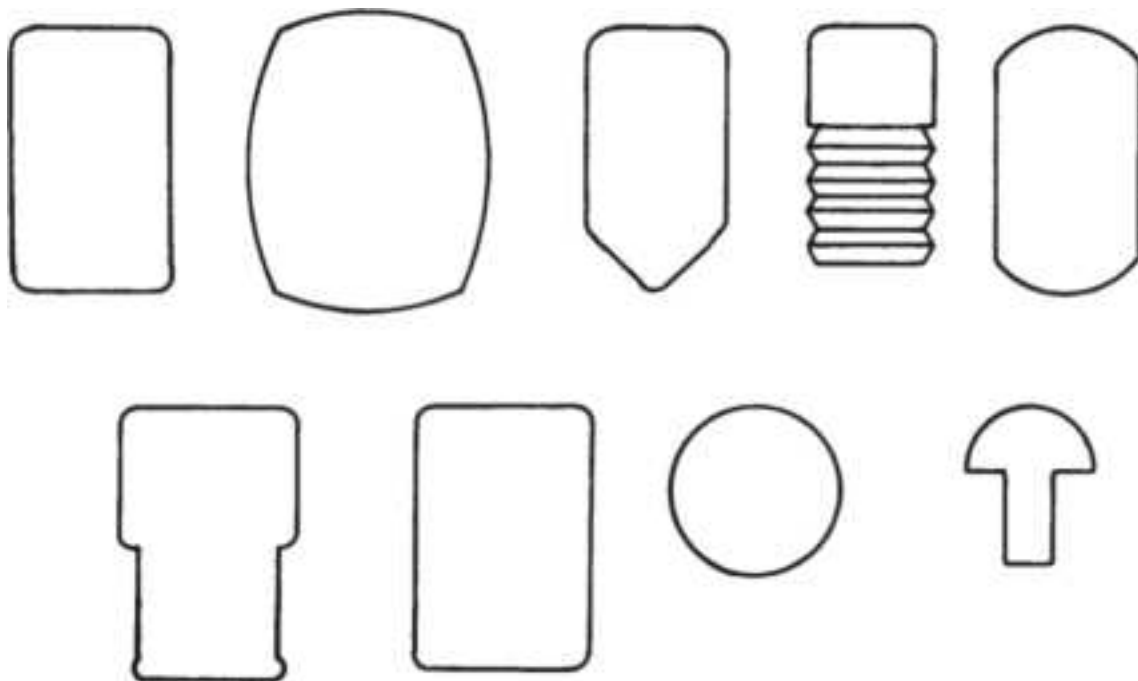

**Figure 7.10** Various pin tumblers.
**Pins.** Top and bottom pins are usually made of brass. They come in a variety of lengths, diameters, sizes, and shapes (Fig. 7.10 ). Although they're small, pin tumblers are very strong.